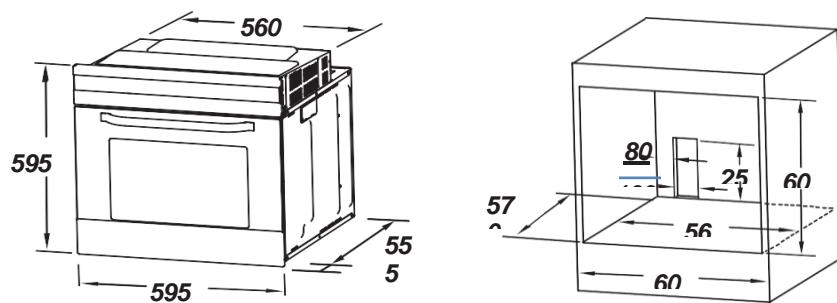

Fig.1
1. Provide an opening meeting the dimensions on figure 1. Fit the appliance into the opening.